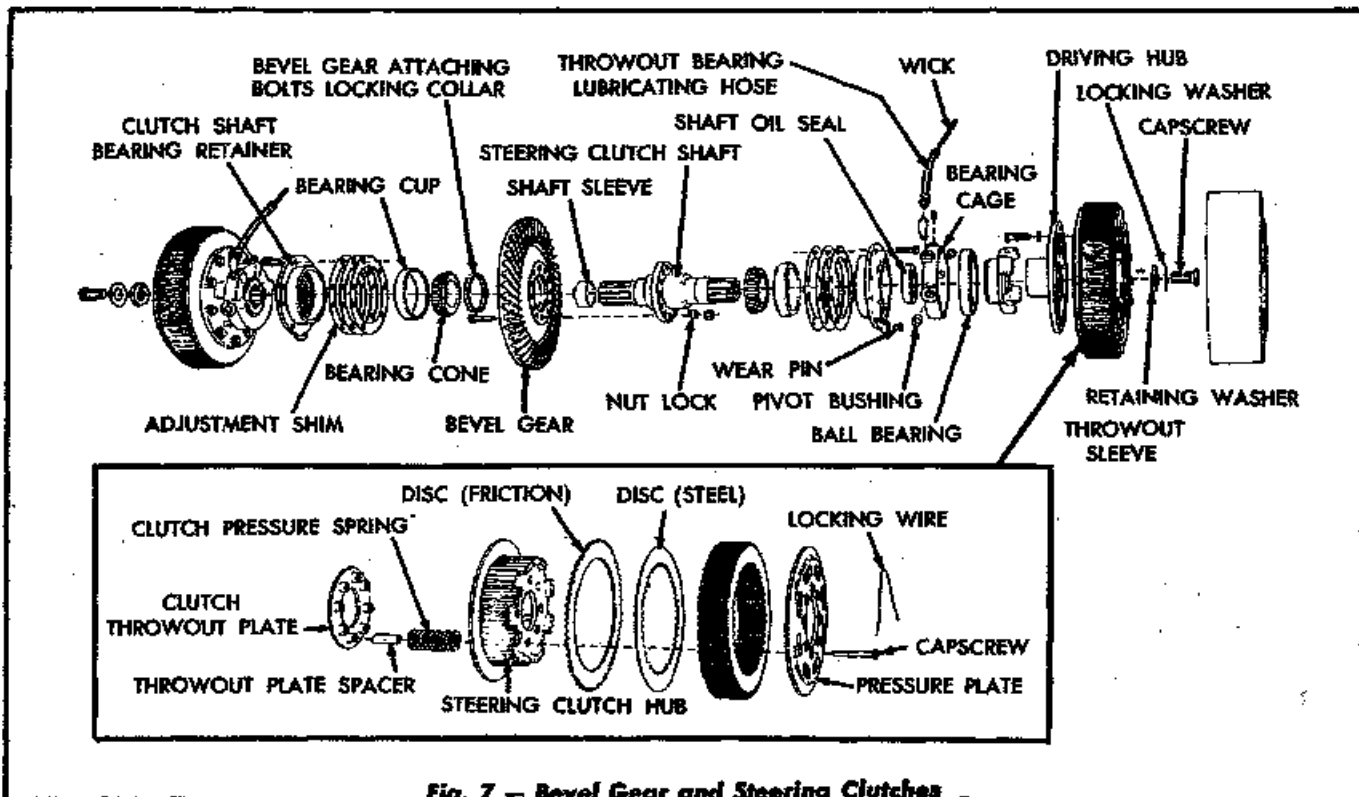

Fig. 7 - Bevel Gear and Steering Clutches
- Before disassembling the steering clutch, refer to Fig. 7 and center punch or mark the pressure plate, clutch hub, and throw-out plate so that they may be reassembled in the same position.